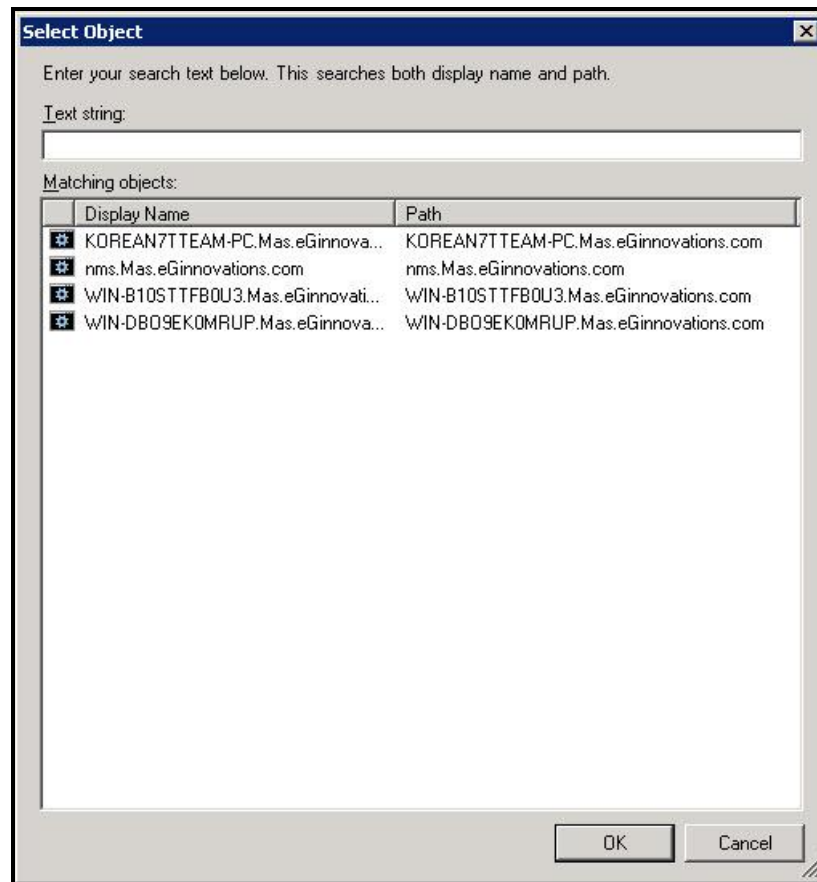

Figure 2.19: Choosing the server on which the eG SCOM Connector is running
- Figure 2.19 then appears. Like before, from Figure 2.19, select the server on which the eG SCOM Connector service is running, and click the **OK** button therein.